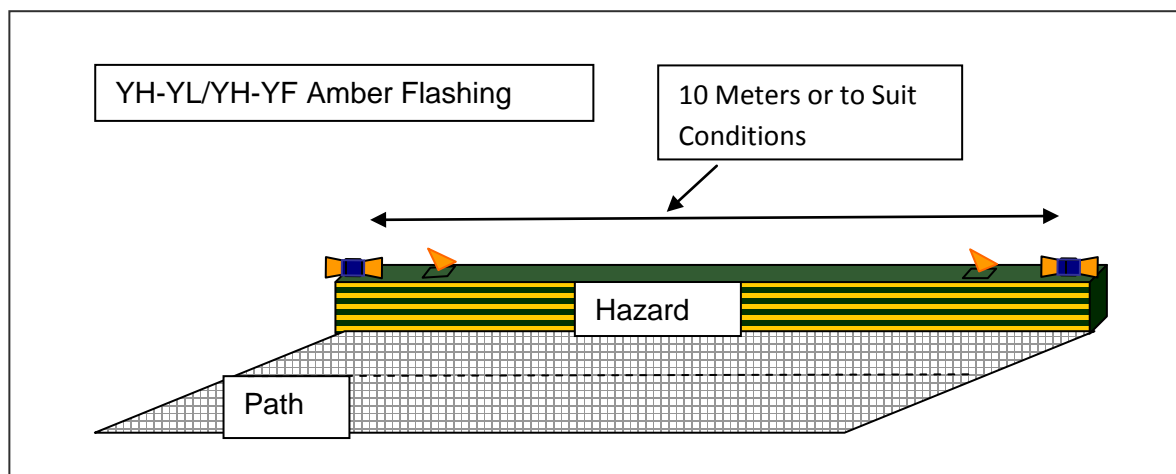

Fig. 19
3. YH-YF shall be used where there are hazards. (See Fig 19.)